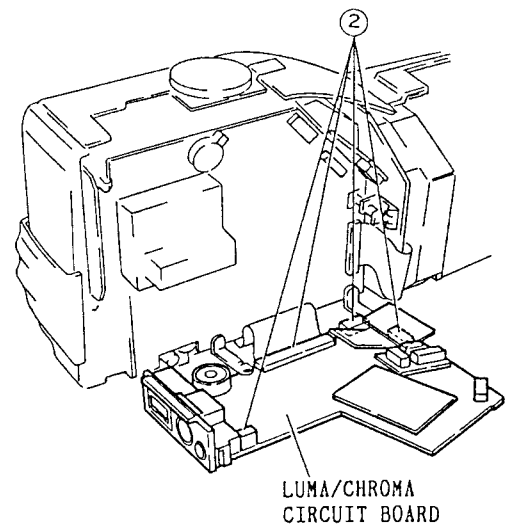

Fig. 2-21
2. Disconnect three (3) connectors (CN010, CN012, CN013) and one (1) flat cable (CN009). (See Fig. 2-21)